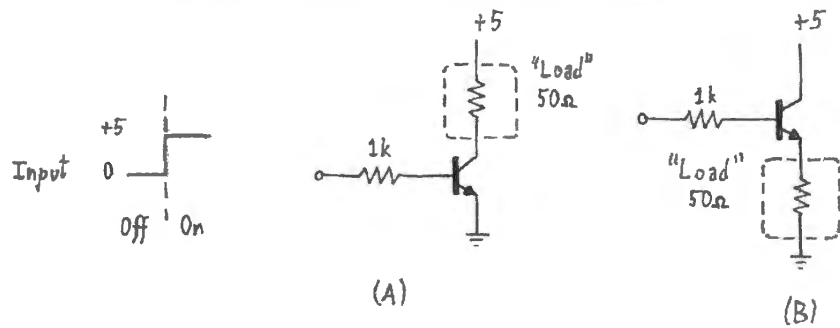

Figure 4W.17 Two possible “switch” circuits.
1. Collector current and switch power: Look at circuit A in Fig. 4W.17; it’s a *switch* configuration: